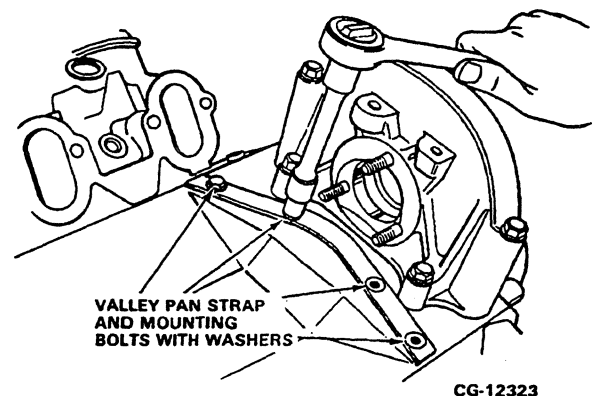

Figure 2.14. Install Valley Pan Strap
4. Place the new valley pan gasket onto the crankcase. Install the valley pan strap and tighten the four bolts and washers to the standard torque. Refer to Figure 2.14.